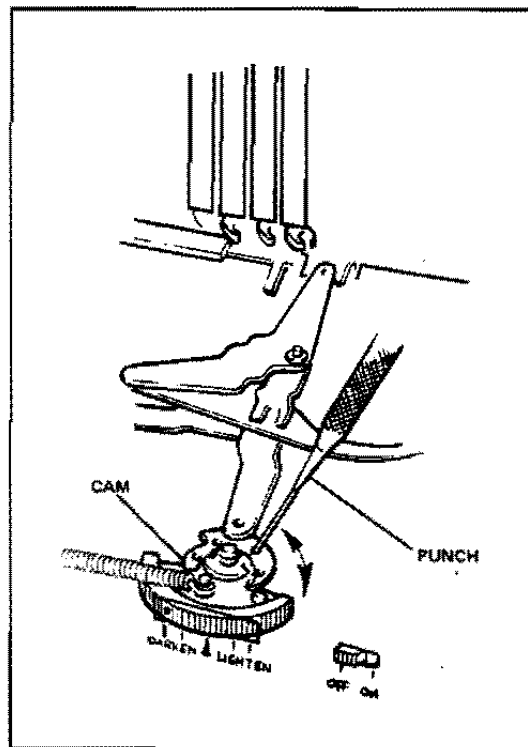

FIG. 4-26 ADJUSTING THE LOUVERS
2. Insert a 1/16" drive pin punch (or equivalent) in a zero adjust cam slot and rotate the cam clockwise until the louvers are almost fully closed (Figure 4-26). Remove the punch.